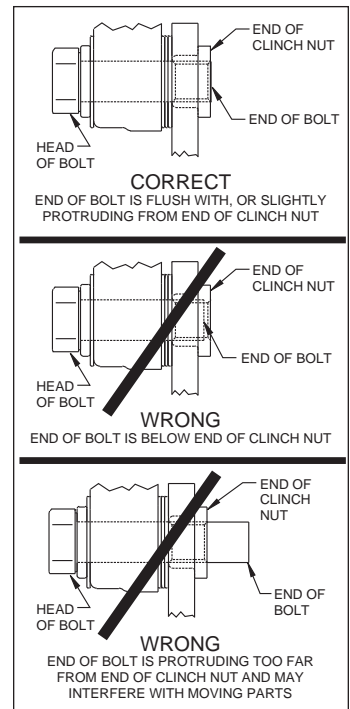

Figure 5. Clinch Nut Engagement Diagram
**Assembly Instructions** (numbers in parenthesis refer to the parts list, and Figure 2 on the preceding pages): **CAUTION:** All mounting bolts must fully engage clinch nuts. Be sure to check that all bolts are either flush or protruding through flanged side of clinch nut after shimming, Figure 5.
- Screw dust cap (17) into hub (7), Photo 8. Friction created by the o-ring (16) on the dust cap keeps it from unscrewing. **NOTE:** The O.D. of the existing OEM spindle washer may be larger than the I.D. of the dust cap not allowing it to seat against the hub face. Therefore, use the spindle washer (15) supplied with the kit instead of the OEM washer.
- NOTE:** Please reference the caution statement at the beginning of the assembly instructions. This kit contains distinct right and left hand calipers that must be mounted in a specific direction, as described below. Mount the caliper (18) onto the caliper mounting bracket (1) using bolts (20) and washers (19), as shown in Figure 2. Initially place two .035" thick shims (21) on each bolt between the caliper and the bracket, Photo 9. Ensure that the caliper is mounted so the largest pistons are at the rotor exit end of the caliper, in relation to the direction of rotor rotation. Temporarily tighten the mounting bolts and view the rotor (11) through the top opening of the caliper. The rotor should be centered in the caliper, Photo 10. If not, adjust by adding or subtracting shims between the bracket and the caliper. Always use the same amount of shims on each of the two mounting bolts. **NOTE:** The end of each bolt must be flush with or slightly protruding from the head of the clinch nut, as shown in Figure 5. If necessary place spare shims between washer (19) and caliper mounting ear to achieve the proper clinch nut engagement. Once the caliper alignment and clinch nut engagement are correct, remove the caliper bolts and caliper.